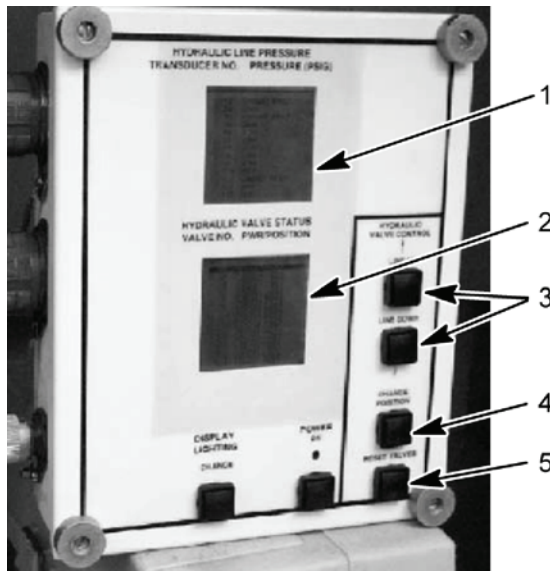

Figure 6. HDC Control Box
- Reset all HDC solenoid valves by selecting the RESET VALVES button (Figure 6, item 5) on the HDC control box.
- Disable ejector by manually closing the ejector inhibit ball valve V23 (Figure 7, item 2) on the DCV bank. Using LINE UP or LINE DOWN button (Figure 6, item 3), select V1 on the HDC display (Figure 6, item 2). Close V1 on the HDC display (Figure 6, item 2) by selecting the CHANGE POSITION button (Figure 6, item 4) on the HDC control box.
- Have assistant start engine and allow engine to idle (750–800 rpm). Slowly close right main hydraulic pressure inhibit valve V21 (Figure 7, item 1) until transducer T-3 on the HDC display (Figure 6, item 1) indicates 3,950–4,050 psi (27,235–27,925 kPa).
- Using LINE UP or LINE DOWN button (Figure 6, item 3), select V1 on the HDC display (Figure 6, item 2). Open V1 on the HDC display (Figure 6, item 2) by selecting the CHANGE POSITION button (Figure 6, item 4) on the HDC control box.